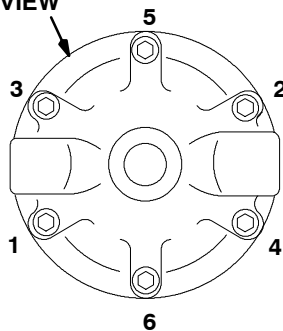

Fig. 5
5. Remove the swivel union (23) and spring (40) from the regulator body.
6. Remove the ball (20), valve seat (16), and gasket (15). See Fig. 5.
8. Remove the cap (7), adjusting screw (12) and spring (5).
9. Place diaphragm assembly in a vise, with jaws on stem housing (18). Remove the stem retaining screw (10), jam nut (13), and washer (17) from the stem housing (18).
10. Remove the diaphragm (25) – *on Models 217314 and 221118 only*, diaphragm (22), and gasket (26).
11. Remove the spring (3), valve stem (9) and gasket (21) from the stem housing.
13. Place stem housing (18) in a vise. One at a time, place the gasket (26), diaphragm (22) – *white PTFE side down toward bottom housing*, diaphragm (25) – *on Models 217314 and 221118 only*, and washer (17) on the stem housing (18). Secure them with the jam nut (13).
**NOTE: On Models 217314 and 221118**, align the holes on the diaphragms (25 & 22) before tightening the jam nut (13).
14. Torque the jam nut (13) onto the stem housing (18) to 21–35 ft-lb (28–47 N•m).
15. Install the valve stem (9), spring (3), gasket (21) and retaining screw (10) in the stem housing (18). Make sure the tab on the valve stem (9) fits into the slot on screw (10).
16. Torque the retaining screw (10) into the housing to 21–25 ft-lb (28–34 N•m).
17. Install the spring, adjusting screw (12) and cap on the housing (6). Tighten six capscrews (1) in the sequence shown in Fig. 5, **Bottom View**, and to the torque noted.